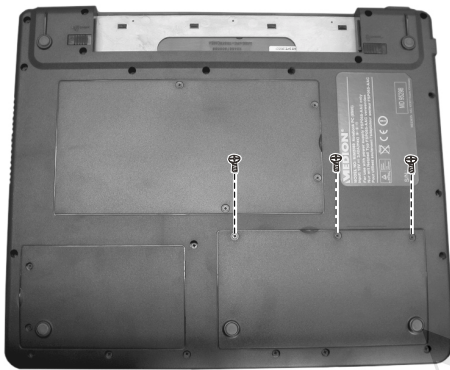

Figure 2-12 Remove the three screws
2. Remove the three screws fastening the DDR cover. (Figure 2-12)